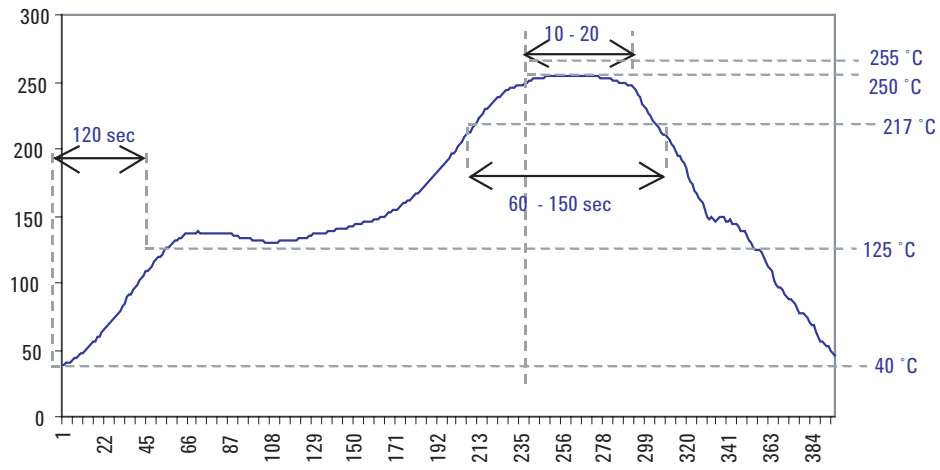

Figure 36. Recommended Reflow Soldering Profile
3. See IR reflow profile (Figure 36)